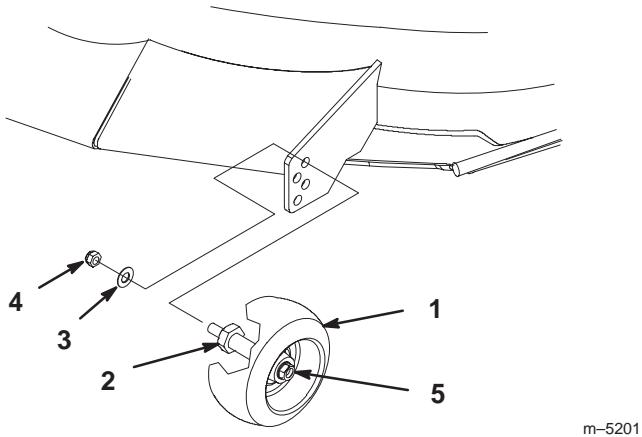

Figure 18
1. After adjusting height-of-cut remove nut and washer while holding stud with wrench (Fig. 18).
Note: Do not remove the wheel nut and washer (Fig. 18).
2. Select a hole position so the gage wheels are a minimum of 3/8 in. (9.5 mm) off the ground for the height-of-cut to be used (Fig. 18).
3. Reinstall the stud nut and washer (Fig. 18).